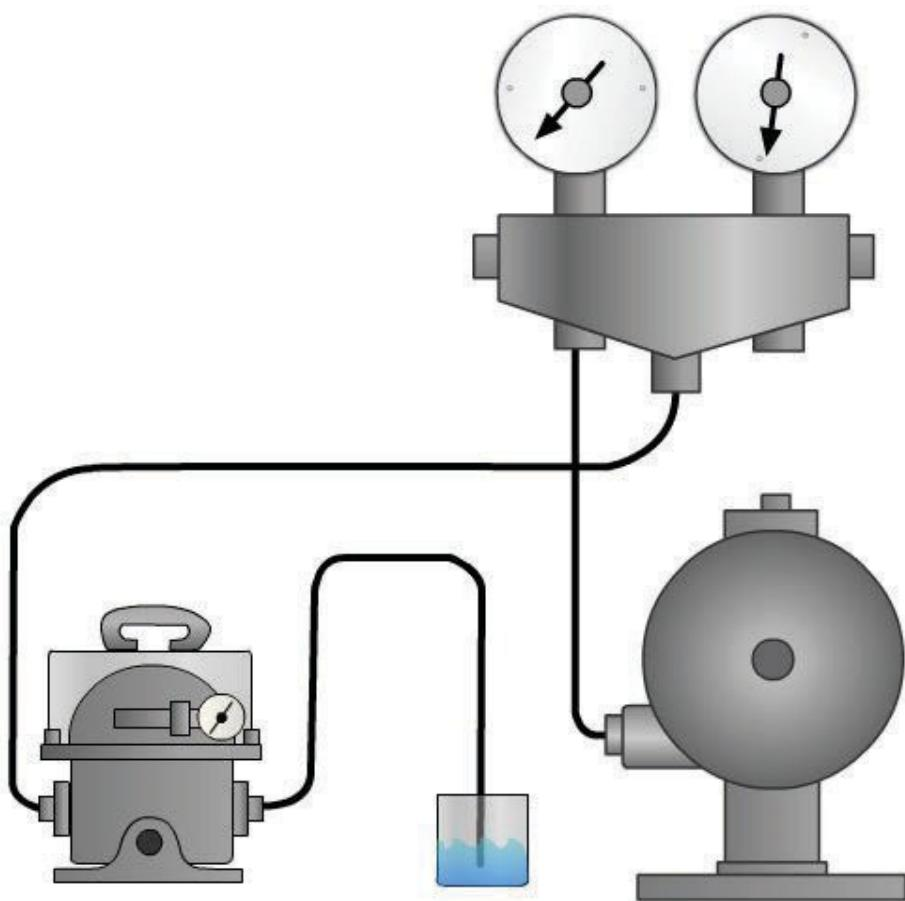

Figure 12-53 — Connections for drawing a vacuum.
4. Attach one end of the 1/4-inch copper tube to the vacuum pump discharge outlet (*Figure 12-53*). Allow the vacuum pump to draw a vacuum of at least 25 inches. Submerge the other end of the copper tubing under 2 or 3 inches of clean compressor oil contained in a bottle.